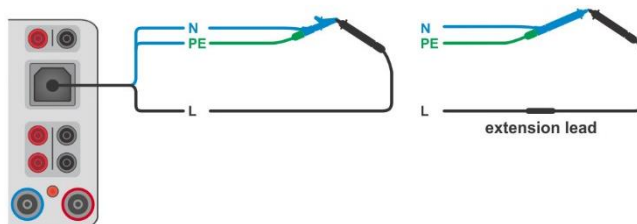

Figure 6.113: Shorted test leads
- › Connect test cable to the instrument and short all test leads together, see **Figure 6.113**.